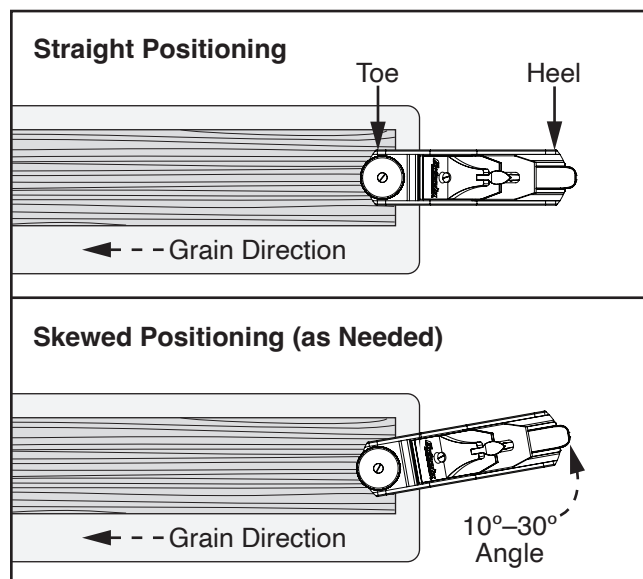

Figure 11. Alternate positioning of plane on workpiece.
3. Place toe end of plane on starting edge of workpiece, following same direction as wood grain (see **Figure 11**).
Note: Difficult wood grains may require skewing heel end of plane approximately 10° – 30° to reduce tear-out (see **Figure 11**).